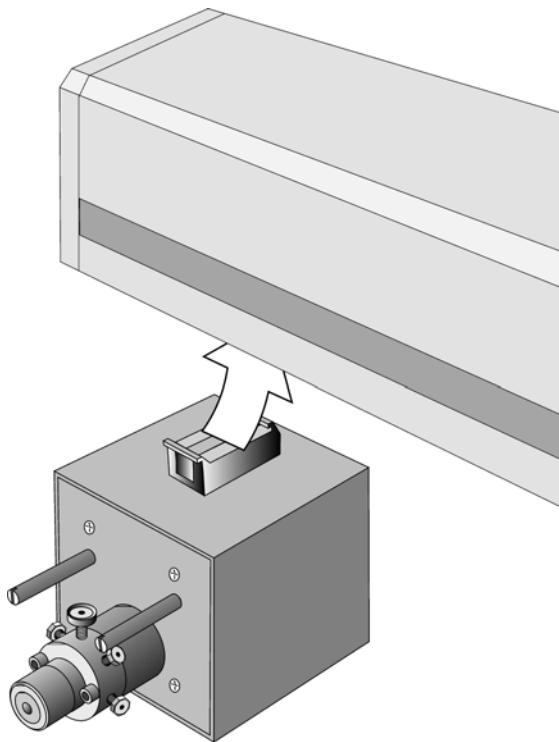

Figure 12. Installing the Injection Valve Drive
- 1 Locate the blue, valve drive. It will have one clamp that is identical to other object clamps. Loosen the clamp as above (see Figure 12).